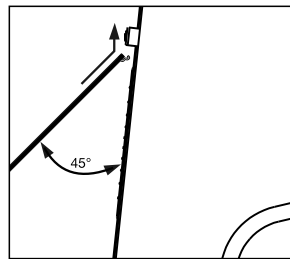

Figure 3.
1. While holding the grille at a 45-degree angle to the speaker, insert the two hook tabs into the two slots on the underside of the logo bar, as shown in the side view in Figure 3.